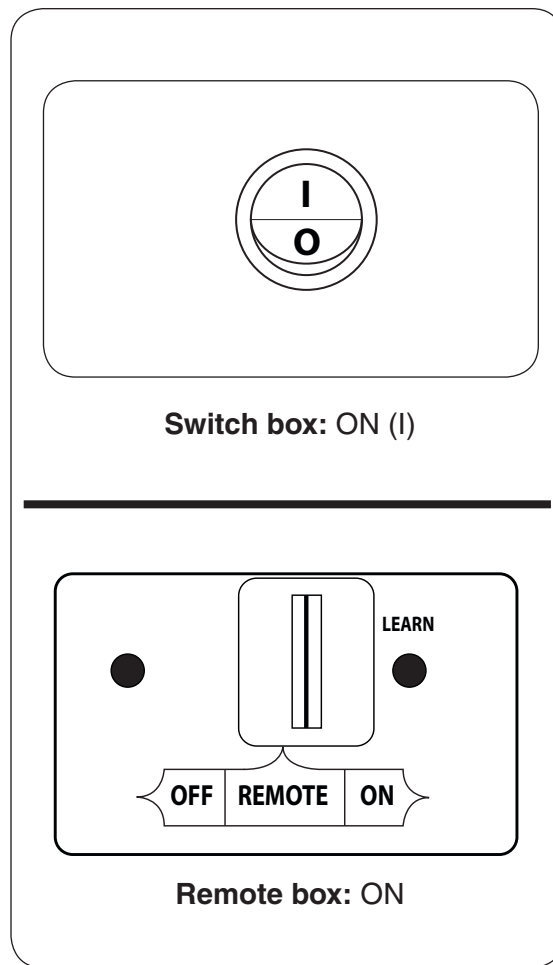

Fig. 13-1 Manual lighting
- Switch Box Models:** Locate the ON/OFF switch at the front of the switch box. Press the switch to the **ON (I)** position. See Fig. 13-1.
Remote Box Models: Locate the 3-position switch on the remote receiver (see Fig. 13-1), and slide the switch to the **ON** position.